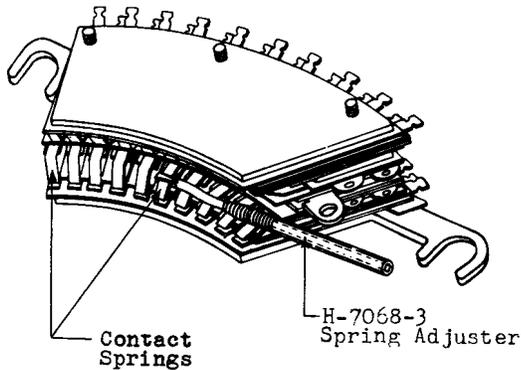

Fig. 14 — Adjusting for Contact Spring and Bank Contact Clearance
- (1) To adjust the springs, insert the H-7068-3 spring adjuster between the switches and place the slot in the end of the adjuster over the contact spring which is to be adjusted, as shown in Fig. 14. Twist the handle of the spring adjuster as required. As these springs are very susceptible to the action of the spring adjuster, exercise care not to twist them excessively.